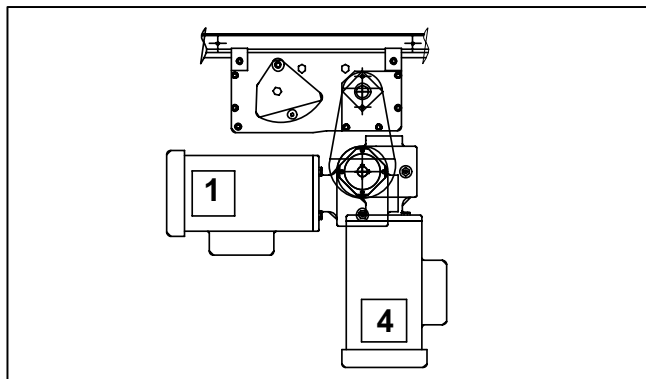

Figure 3
**NOTE:** For Type 1 mounting package, the gearmotor may be operated in positions 1 or 4 (Figure 3).